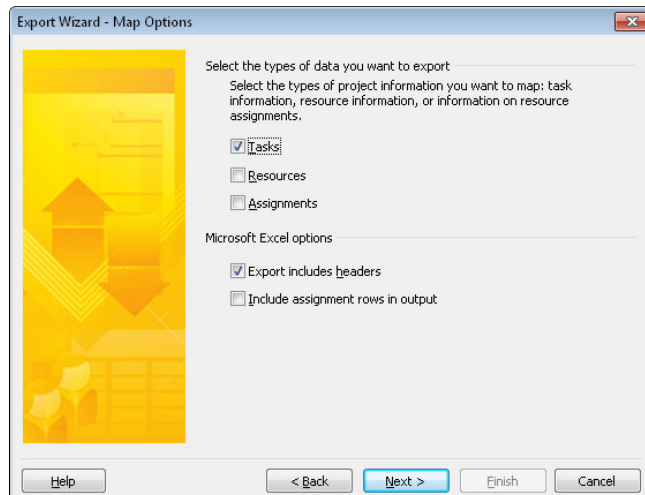

FIGURE 7-9 When you select the Export Includes Headers check box, Project exports the column headings to the spreadsheet you create.
6. On the Export Wizard - Map Options page, select the Tasks check box, as shown in Figure 7-9, to export costs associated with tasks. Verify that the Export Includes Headers check box is selected so that column headings appear in the spreadsheet you create.